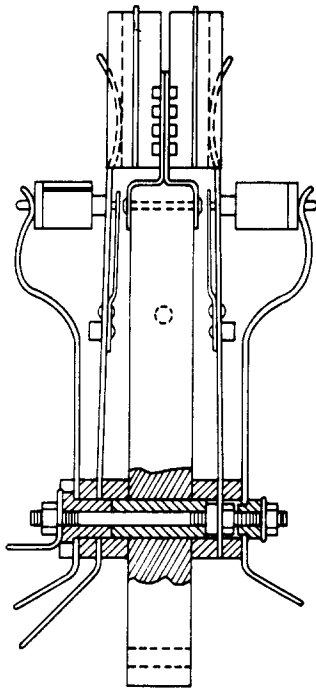

Fig. 3—4A and 4C Protectors—10-Type Protector Mounting
- 2.03 Other protector mountings similar to the C-type are shown in Fig. 3, 4, 5, and 6.